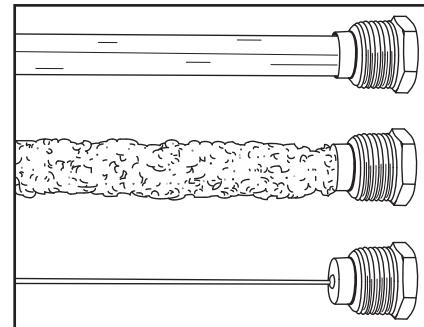

Figure 33 - Anode Rods from new (top) to partially depleted (middle) to fully depleted (bottom).
**Anode Rod.** The anode rod is a sacrificial metal rod and is the water heater's first line of defense to prevent corrosion and premature failure (leaks) in the tank. The anode rod is a consumable item. Inspect the anode rod after the first six months of operation when you drain and flush the tank. Replace the anode rod if it is substantially worn out or depleted. Thereafter, inspect the anode rod annually or more frequently if needed. If you use a water softener, your anode rod will deplete faster than normal. Inspect the anode rod more frequently, replacing the anode rod as needed. Obtain new anode rods from your local plumbing supplier or have a qualified person replace it (anode rods are a consumable item and are not covered under warranty). See Figure 33.